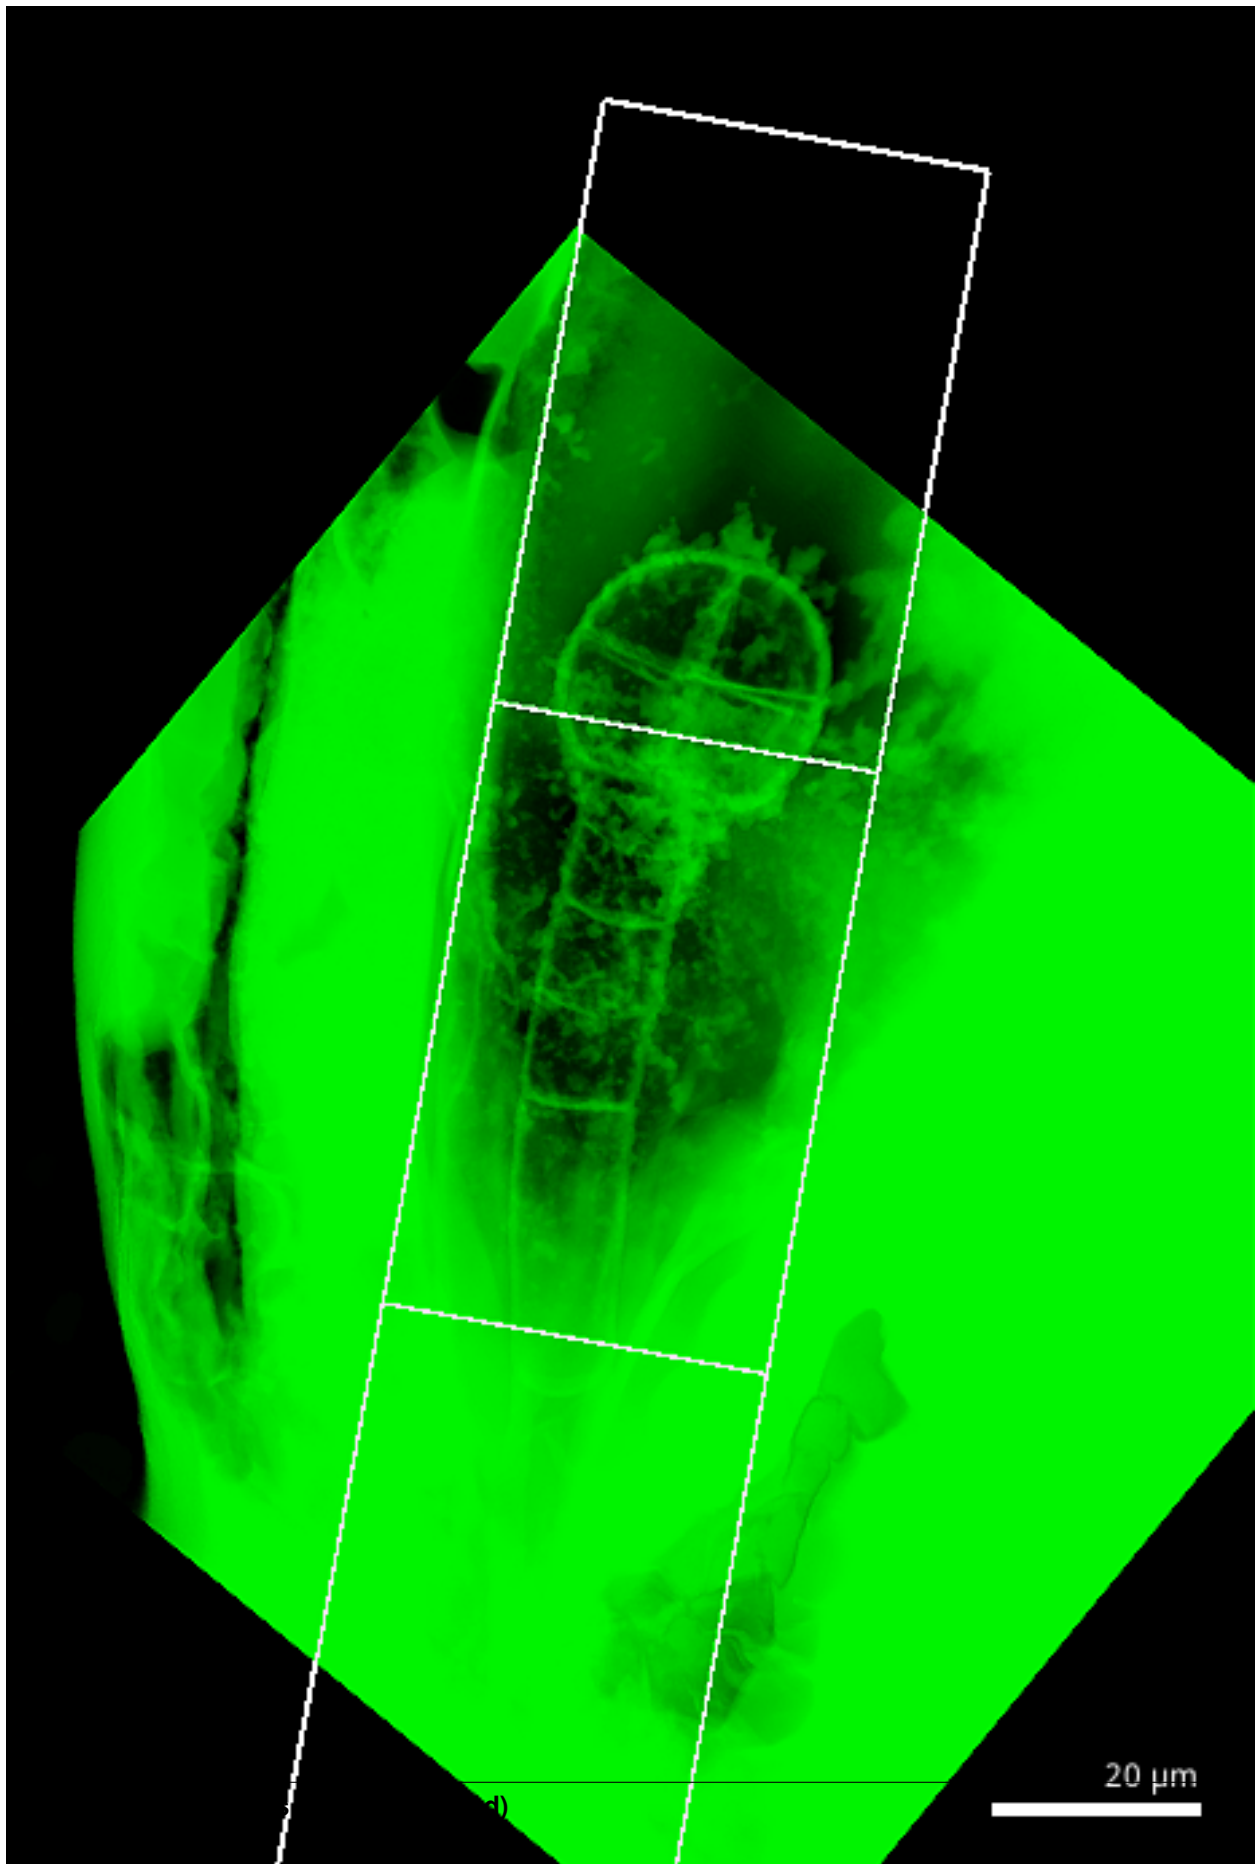

Fig. 4.15: Place the clipping planes to include just the embryo itself.
4. Adjusting the thickness of the slice, and moving the clipping plane with the control-key pressed, place the clipping planes to include the embryo (see Figure 4.15)